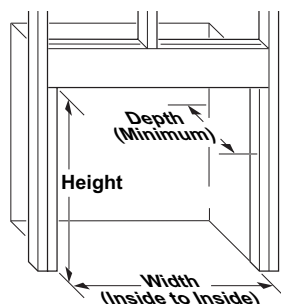
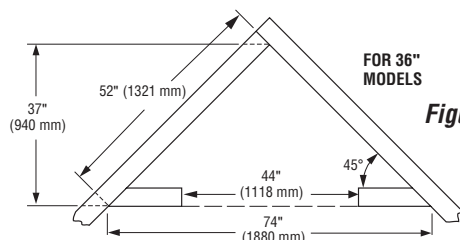

Figure 4a
Figure 4b
1. Frame in rough opening. The fireplace framing must be constructed of steel stud material. Steel studs are provided and are permanently fixed around the perimeter of the unit. Use dimensions in **Table 1** and rough opening layout in **Figure 4a**. Adjust framing so that fireplace is flush with finished wall surface. If installing in a corner, use dimensions in **Figures 4b and 4c** for rough opening.